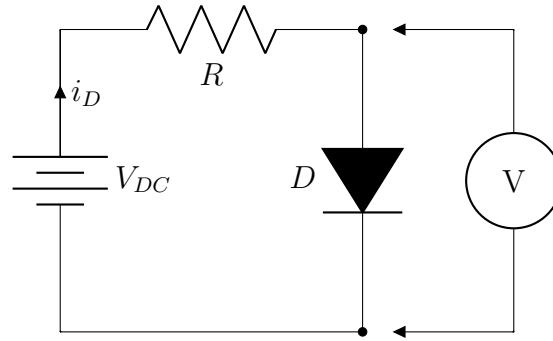

Figure 3: PN-Junction Diode Test Circuit with Voltmeter across Diode
1. Build a half-wave diode rectifier circuit using a Si 1N4148 diode, as shown in Figure 3.